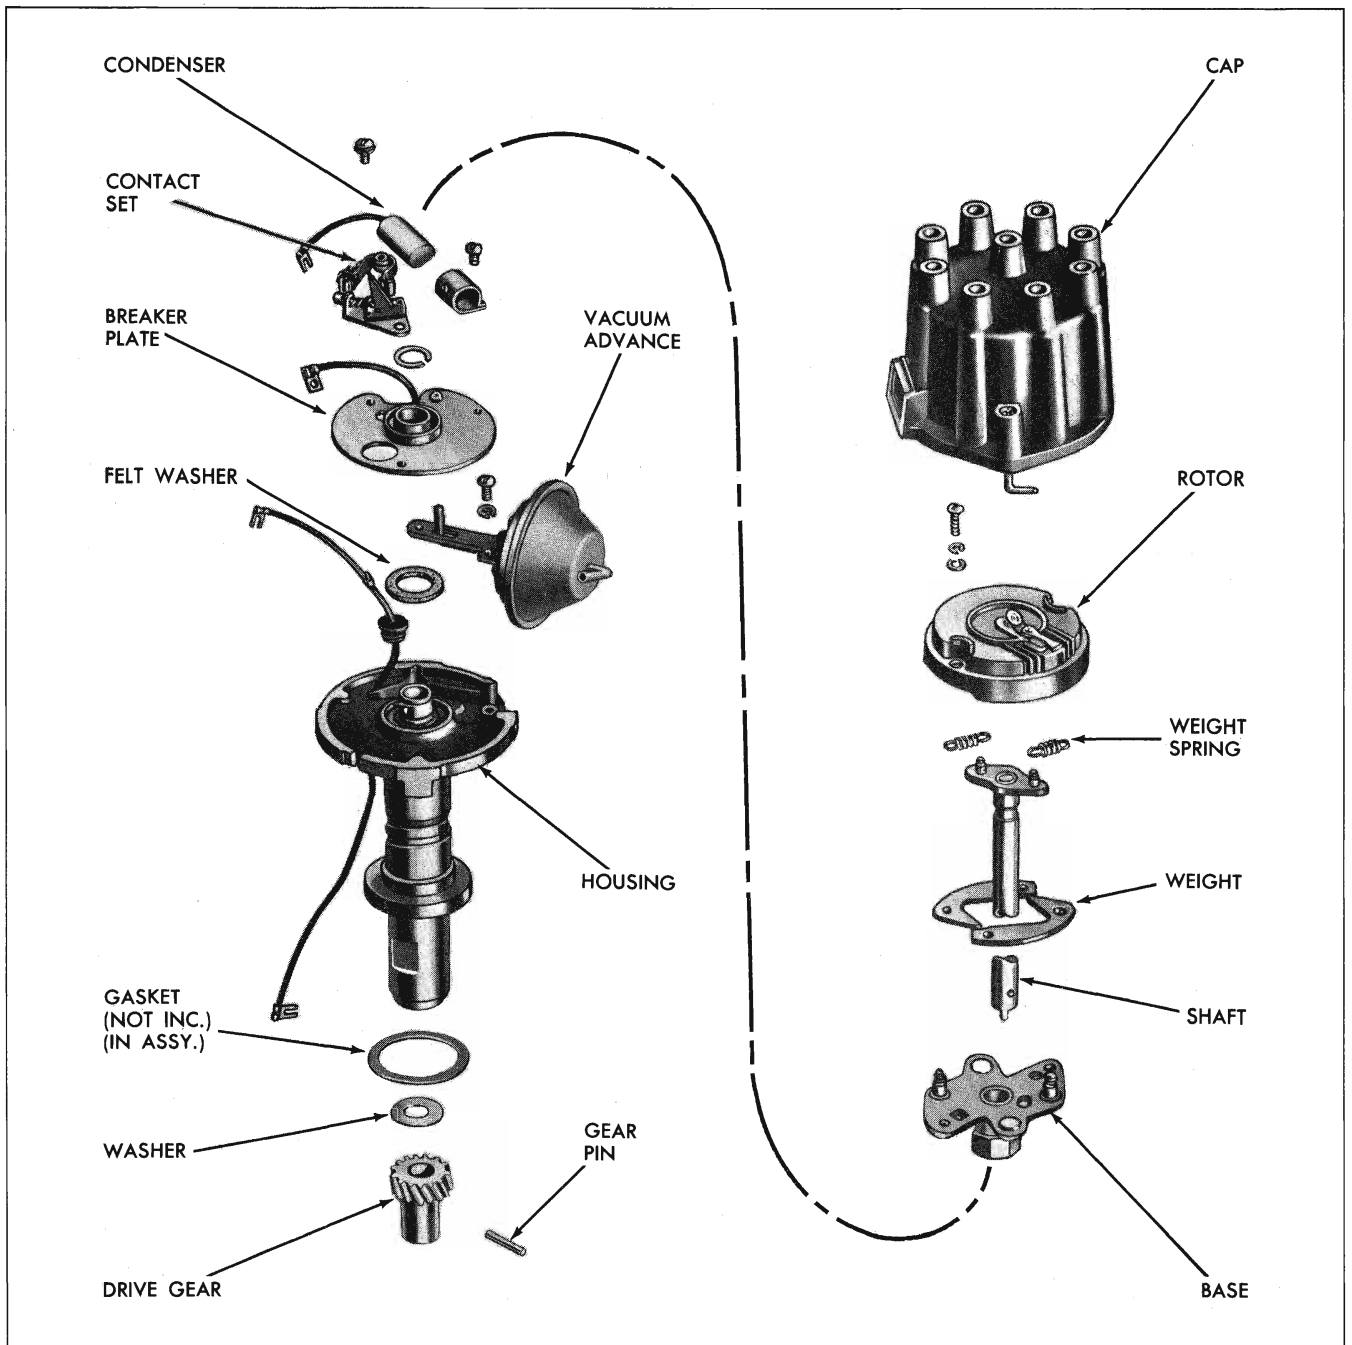

Fig. 11-56 Distributor Assembly—Exploded View
1. Remove the rotor by removing the two attaching screws, lock washers, and flat washers (Fig. 11-56).